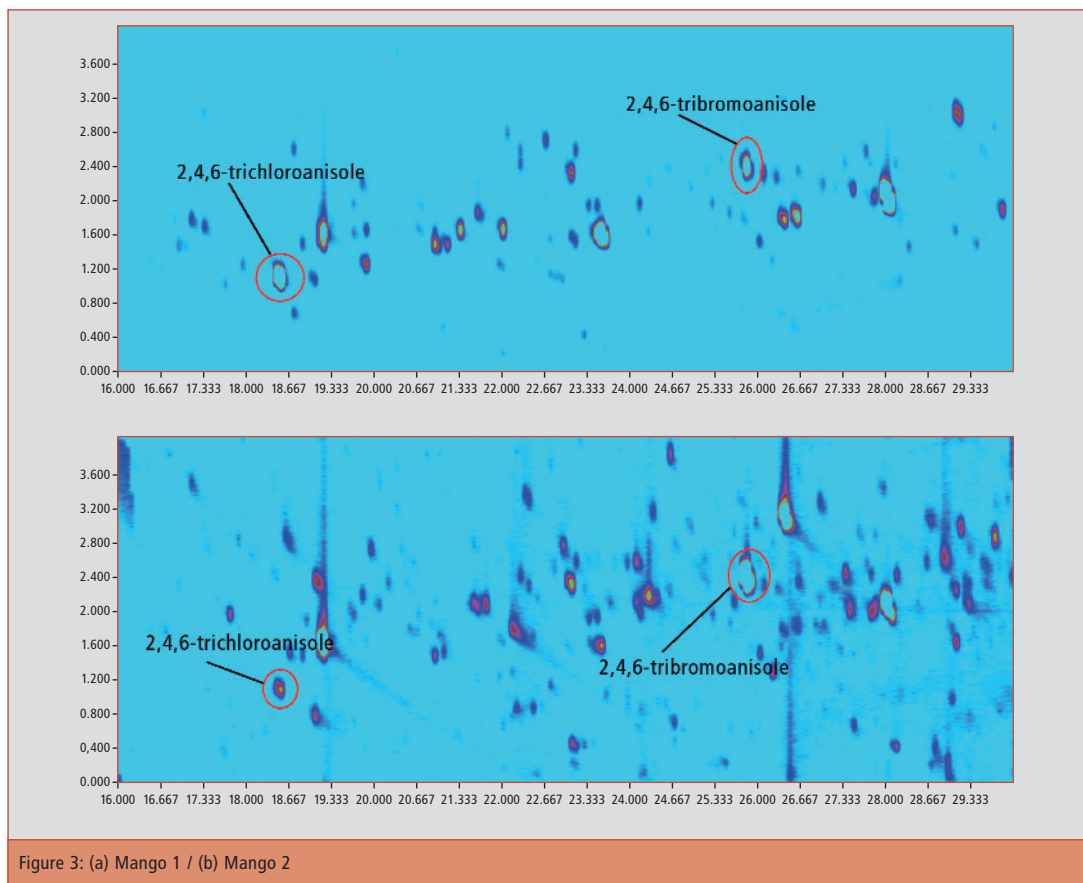

Figure 3: (a) Mango 1 / (b) Mango 2
The signal-to-noise ratio (S/N) for 10 ng/kg TCA was increased from 18:1 (electron ionization (EI) in SIM mode) to 72:1 (NCI in SIM mode). If NCI is used in combination with comprehensive GCxGC, a further increase of the S/N to 300:1 is observed, resulting in a quantitation limit of 0.1 ng/kg. The only drawback of this method is the formation of fragments corresponding to the halide atoms ($m/z = 35$ and 37 for chloroanisoles and $m/z = 79$ and 81 for bromoanisoles), making the use of deuterated standards impossible. The figure below shows the contour plot of a standard sample with a concentration of 10 ng/kg of each of different haloanisoles. Figure 3 shows the contour plots of halide anisoles in a real world sample of mango. Sample preparation was performed by automated headspace solid-phase microextraction (HS-SPME) using a 2 cm 50/30 μm divinylbenzene/carboxene/polydimethylsiloxane fibre at 80 °C for 60 min. Sample amount was 1 g of homogenized material. Calibration range was 1-100 ng/kg.